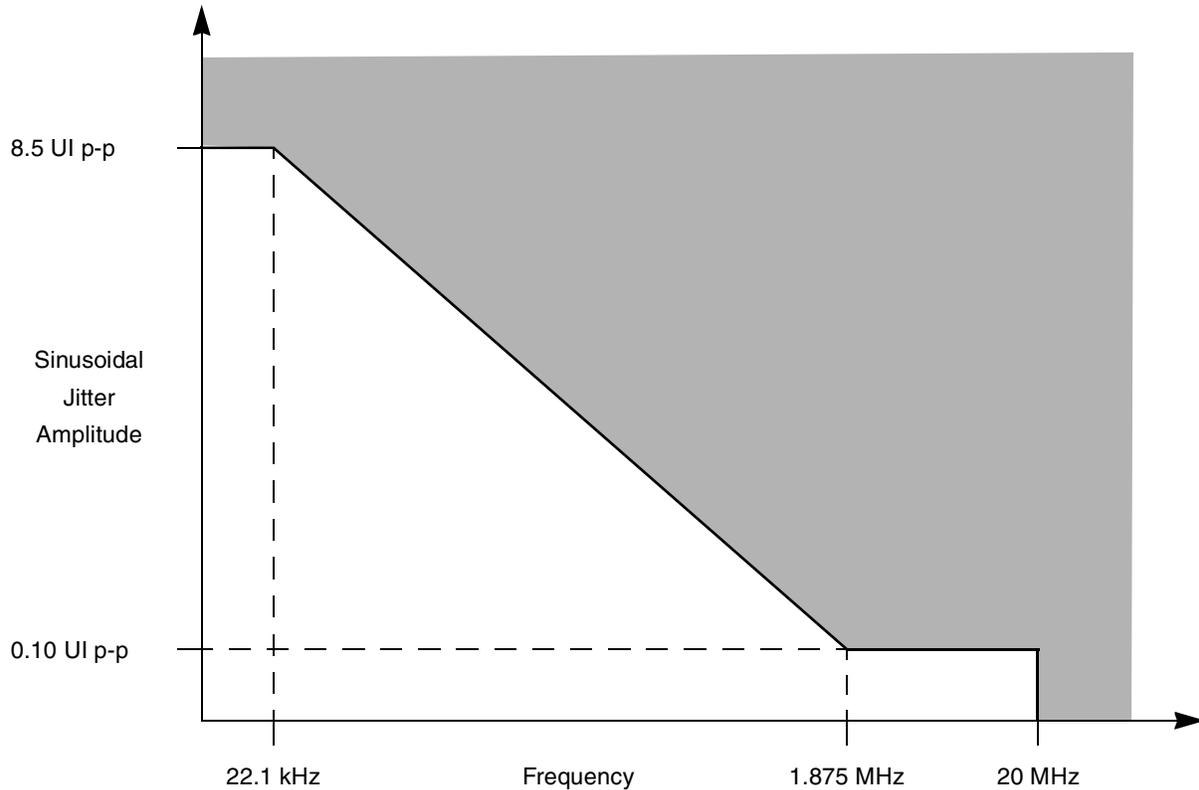

Figure 54. Single Frequency Sinusoidal Jitter Limits
- Total jitter is composed of three components, deterministic jitter, random jitter and single frequency sinusoidal jitter. The sinusoidal jitter may have any amplitude and frequency in the unshaded region of Figure 54. The sinusoidal jitter component is included to ensure margin for low frequency jitter, wander, noise, crosstalk and other variable system effects.